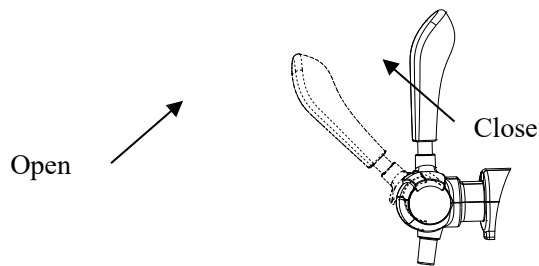

Figure 13
5. To pour the beer out by pulling down the tap mechanism, and you can adjust the pressure regulator knob to control the beer flow rate and beer bubble (Show as figure13);